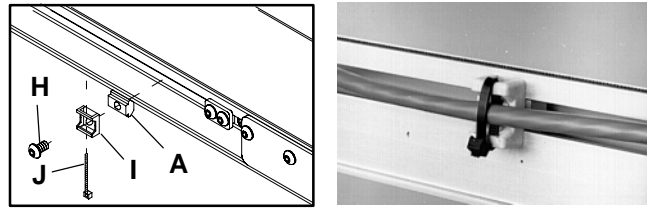

Figure 14
(I of Figure 14) and Single Drop-in T-bars (A). Secure each Zip Tie Mount with M6 screw (H).